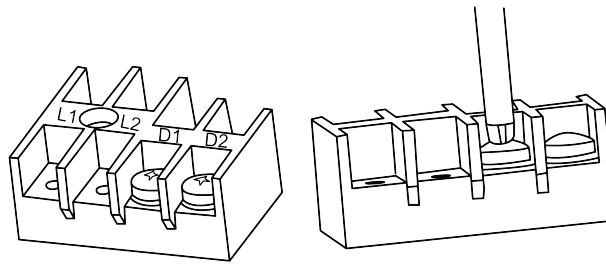

Fig. 5.3.1
- (1) Open the cover of electric box of indoor unit.
- (2) Lead the communication line across the rubber ring.
- (3) Connect the communication line to terminal D1 and D2 on the 4-digit wiring board of indoor unit, as shown in Fig. 5.3.1.